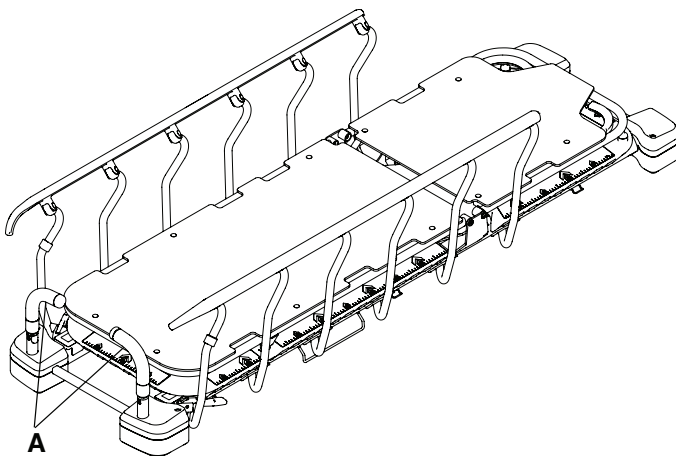

**Figure 9 – Positioning the foot end push handles**
1. Pull straight up on the foot end push handles (A) one at a time (Figure 9).
2. Pivot the foot end push handles (A) to the use position.